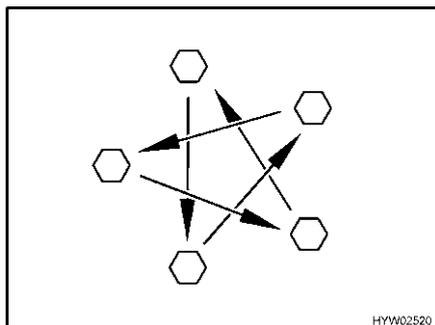

Fig. 230 Tighten the wheel nuts or wheel bolts cross-wise
- Check regularly that the wheel nuts or wheel bolts are firmly seated. Retighten the wheel nuts or wheel bolts of a changed wheel cross-wise (Fig. 230) after 50 km (30 miles). See section 13.5.2 for tightening torque.
- ▷ Tighten the wheel nuts or wheel bolts cross-wise (Fig. 230).